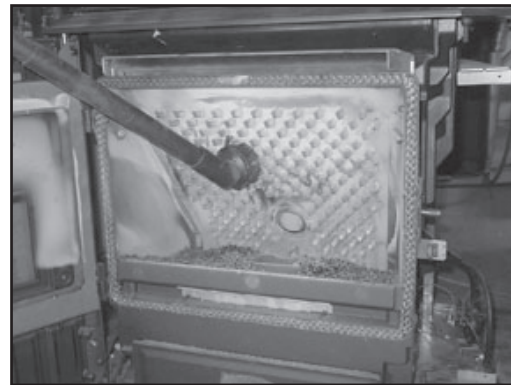

Figure 23.3
- Vacuum the ash from the heat exchanger with an upholstery brush to remove the majority of the ash. Be sure to vacuum the back of the baffle also. Inspect the drop tube and remove any residue build-up in the drop tube (**Figure 23.3**).